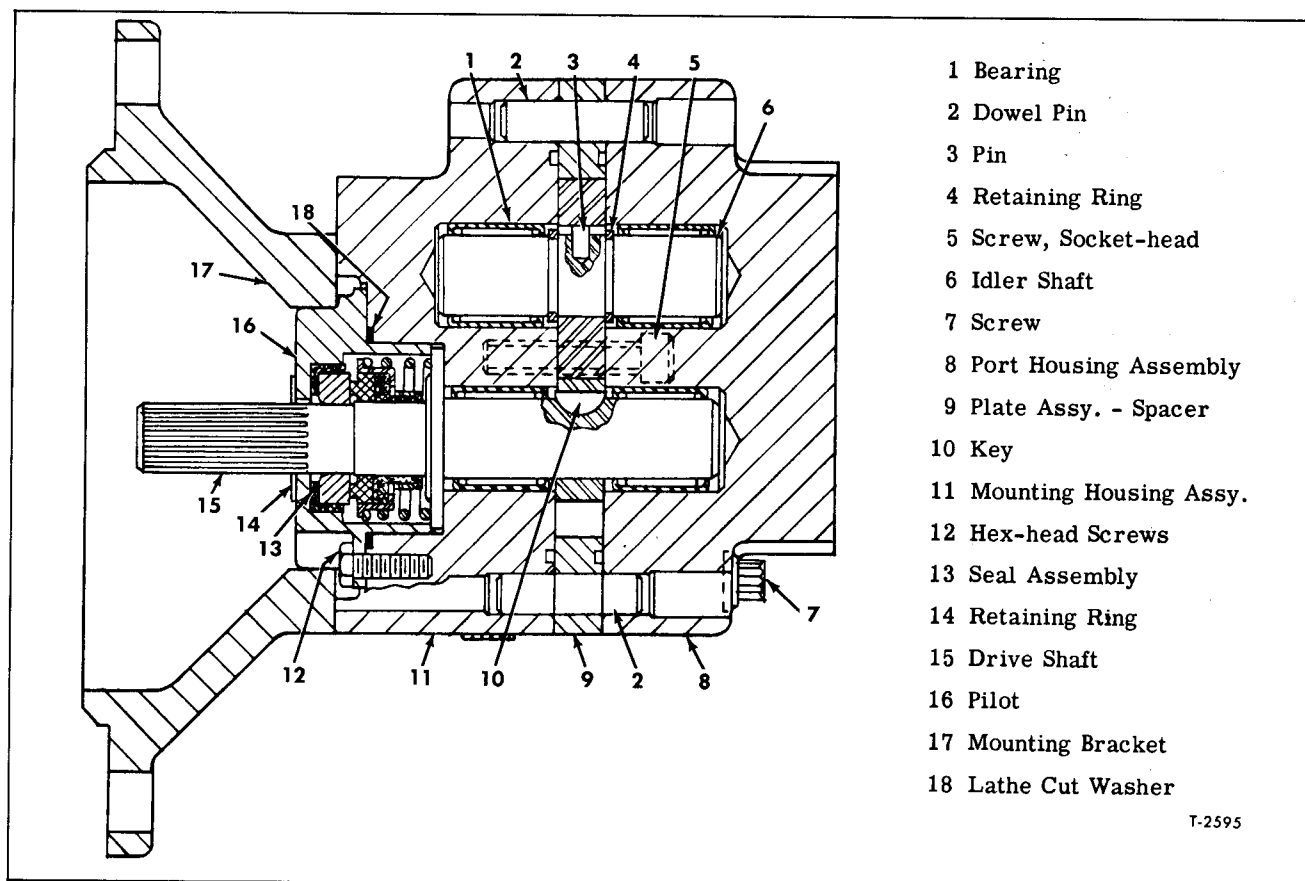

Figure 18—Sectional View of Fan Drive Fluid Pump
(Key numbers in text refer to figure 18.)
Key numbers in text refer to figure 18.
Key numbers refer to figure 18.
1. If shaft bearings (1) have been removed from either housing (8 or 11), use suitable installer to press new bearings into housing bores. Bearings must be located as shown in figure 18, i.e., far enough into bore so that when pump is assembled, the retaining rings (4) on idler shaft (6), and gear key (10) will not contact bearing housings.
2. Lubricate drive shaft surfaces with light weight engine oil, then insert drive shaft (15) through bearing in mounting housing (11) and install gear key (10) in keyway.
3. If gear has been removed from idler shaft (6), install pin (3) in keyway and install one retaining ring (4). Install gear on shaft, then install other retaining ring (4).
4. With mounting housing and drive shaft supported with spacer plate side facing upward, and light weight engine oil applied to gears, bearings and shaft surfaces, insert idler shaft (6) into bearing in mounting housing (11). Install gear on drive shaft (15) with keyway in gear engaged with key (10).
6. Referring to mark made at disassembly, install port housing assembly (8) over ends of shafts (6 and 15) and dowel pins (2).